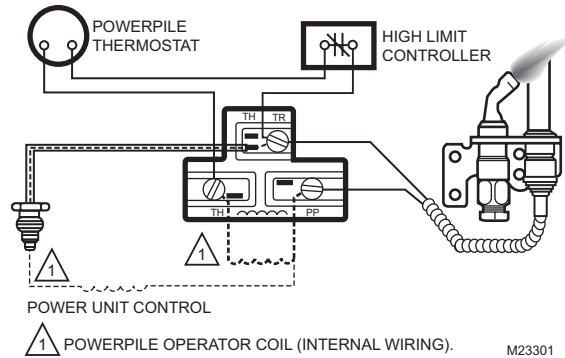

Fig. 11. Typical Wiring Connections for Gas Control with Three-Terminal Operator.
3. Connect thermostat leads as shown in Figures 11 or 12.